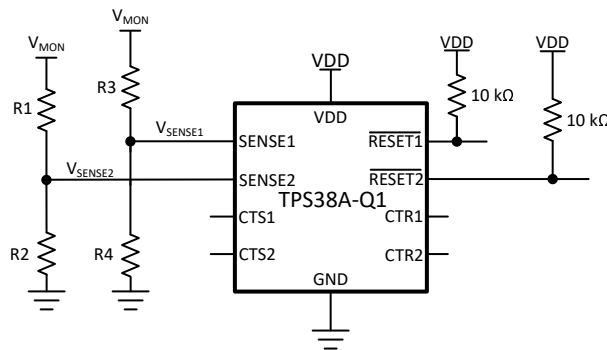

图 9-1. Adjustable Voltage Threshold with External Resistor Dividers
For example, consider a 12 V rail being monitored V_{MON} for undervoltage (UV) using channel 1 of the TPS38A010122DSKRQ1 variant. Using 方程式 12 and shown in 图 9-1, R_1 is the top resistor of the resistor divider that is between V_{MON} and V_{SENSE2} , R_2 is the bottom resistor that is between V_{SENSE2} and GND, V_{MON} is the voltage rail that is being monitored and V_{SENSE2} is the input threshold voltage. The monitored UV threshold, denoted as V_{MON-} , where the device will assert a reset signal occurs when $V_{SENSE2} = V_{IT-(UV)}$ or, for this example, $V_{MON-} = 10.8V$ which is 90% from 12 V. Using 方程式 12 and assuming $R_2 = 10k\Omega$, R_1 can be calculated shown in 方程式 13 where I_{R1} is represented in 方程式 14: